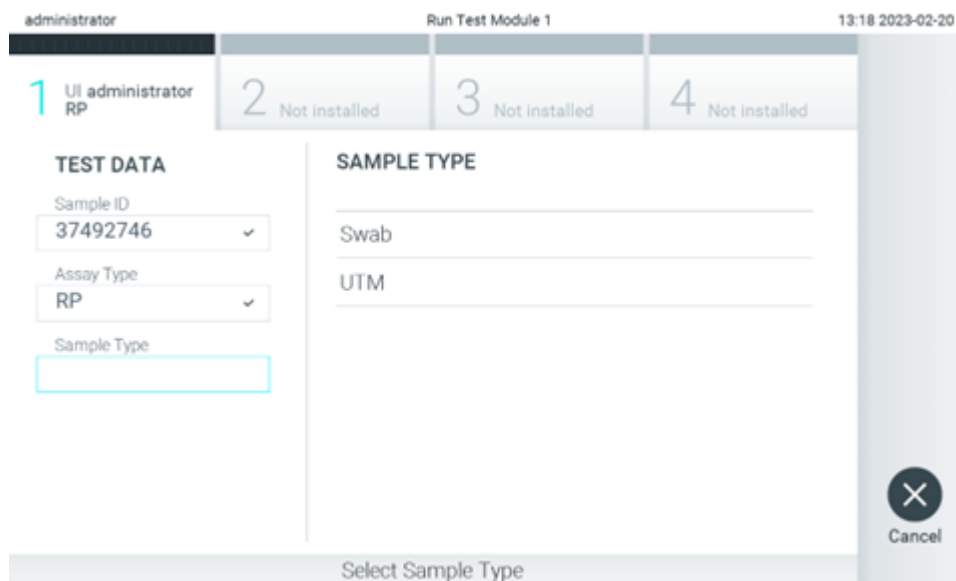

Figure 88. Selecting sample type.
- The **Assay Type** field will be automatically entered and, if required, an appropriate Sample Type must be manually selected from the list (Figure 88).